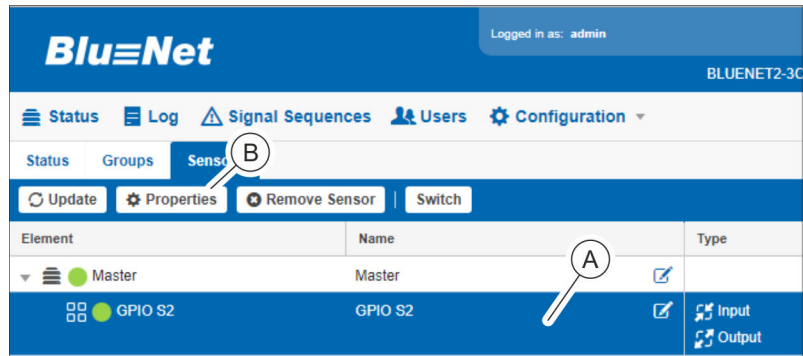

Fig. 129: “Status” menu – “Sensors” tab
4. ➤ Select the desired GPIO module in the “Sensors” tab (Fig. 129/A).
5. ➤ Click the “Properties” button to call up the detail view (Fig. 129/B).